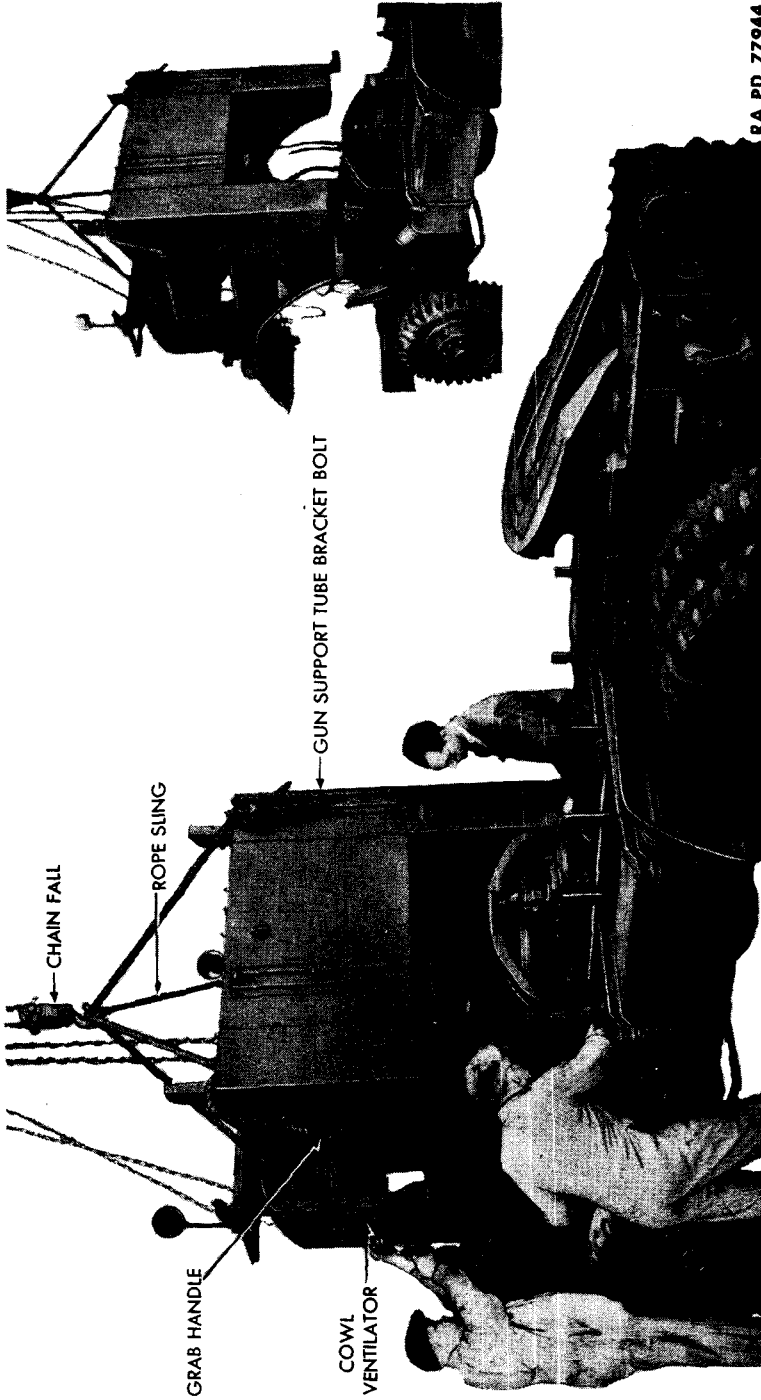

Figure 22 — Removing Cab
- ee. **Remove Cab** (fig. 22). Attach rope sling to cab as follows: Tie one end of rope to gun support tube bracket U-bolts at rear right-hand side of truck. Pull other end of rope across cab to the front left-hand side. Open cowl ventilator and push rope through opening, allowing some slack; then pull rope through grab handle on left-hand
p. **Install Cab** (fig. 22). Attach rope to cab as described in paragraph 56. Attach hoist to rope and raise into position over engine. Lower cab slowly, and guide into position on supporting brackets. Remove hoist and attaching rope.